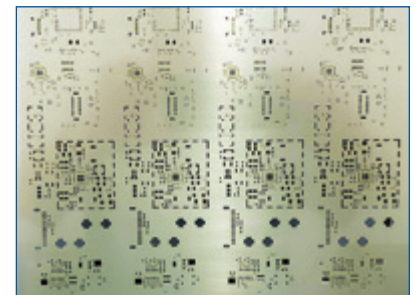

FIGURE 10. Bottom side of the stencil used for the evaluation.
- Customer’s 5 mil-stencil, laser cut, and with nanocoating (Nanoslic) (FIGURE 10)